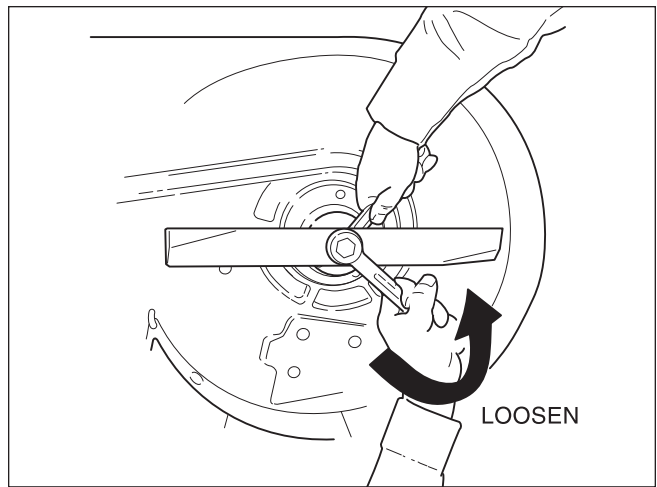

Figure 26. Removing the Blade
2. To remove blade for sharpening, use a 1" wrench on the flats of the spindle shaft while removing the blade mounting bolt with a 15/16" wrench (Figure 26).